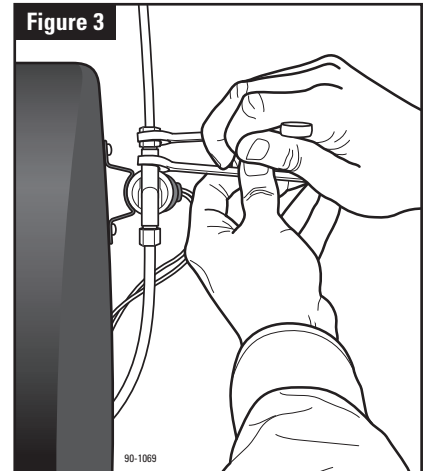

Figure 3
**9.** Run 1/4" copper tubing from saddle valve to solenoid valve. **DOUBLE-WRENCH TO PREVENT LEAKING.** See **Figure 3**.